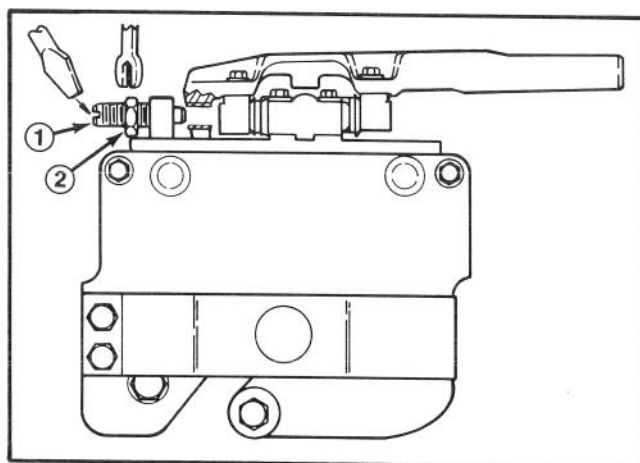

Figure 14
- A. Float Position (Fig. 14) — Allows cutting units to float freely and follow turf undulations, this position is recommended when mowing at heights-of-cut less than 1-inch (25 mm) and removing less than approx. one inch (25 mm) of clippings.
Float Position: Loosen jam nut, unscrew lockout pin until it disengages from the pivot arm. Tighten jam nut (Fig. 14).
- J. Loosen lockout pin so cutting unit can float freely (refer to Cutting Unit Orientation, Fig. 14).